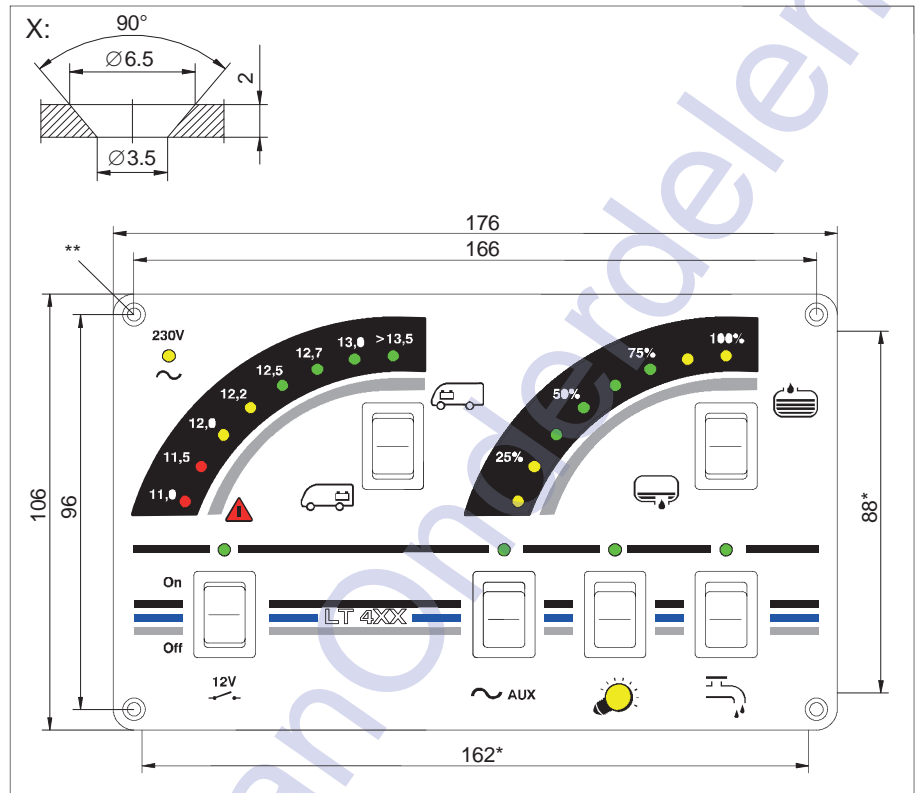

Fig. 1 Dimension diagram for switch panel LT 400, LT 402, LT 410, LT 411 and LT 420 (dimensions in mm)
- " Mark out the hole pattern (see Figs. 1 & 2).